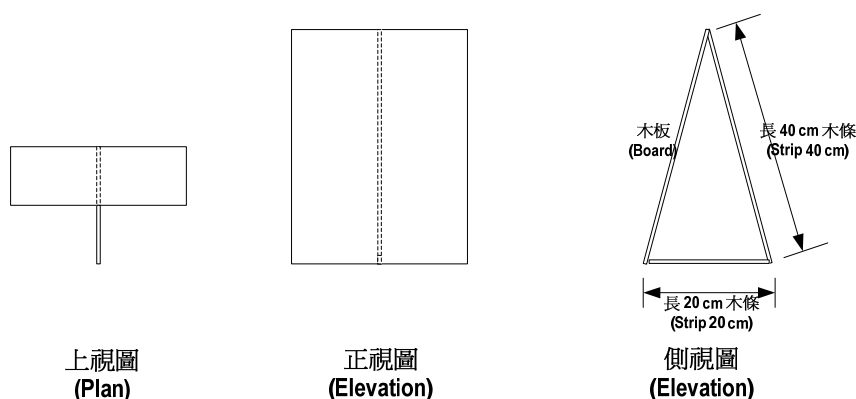

Figure 17. Description poster and board.
11.2 Description board: each team is required to complete a description board and paste the poster onto the board within the model construction time. The board is made of the thin wooden board and wooden sticks that are provided (refer to Figure 17).